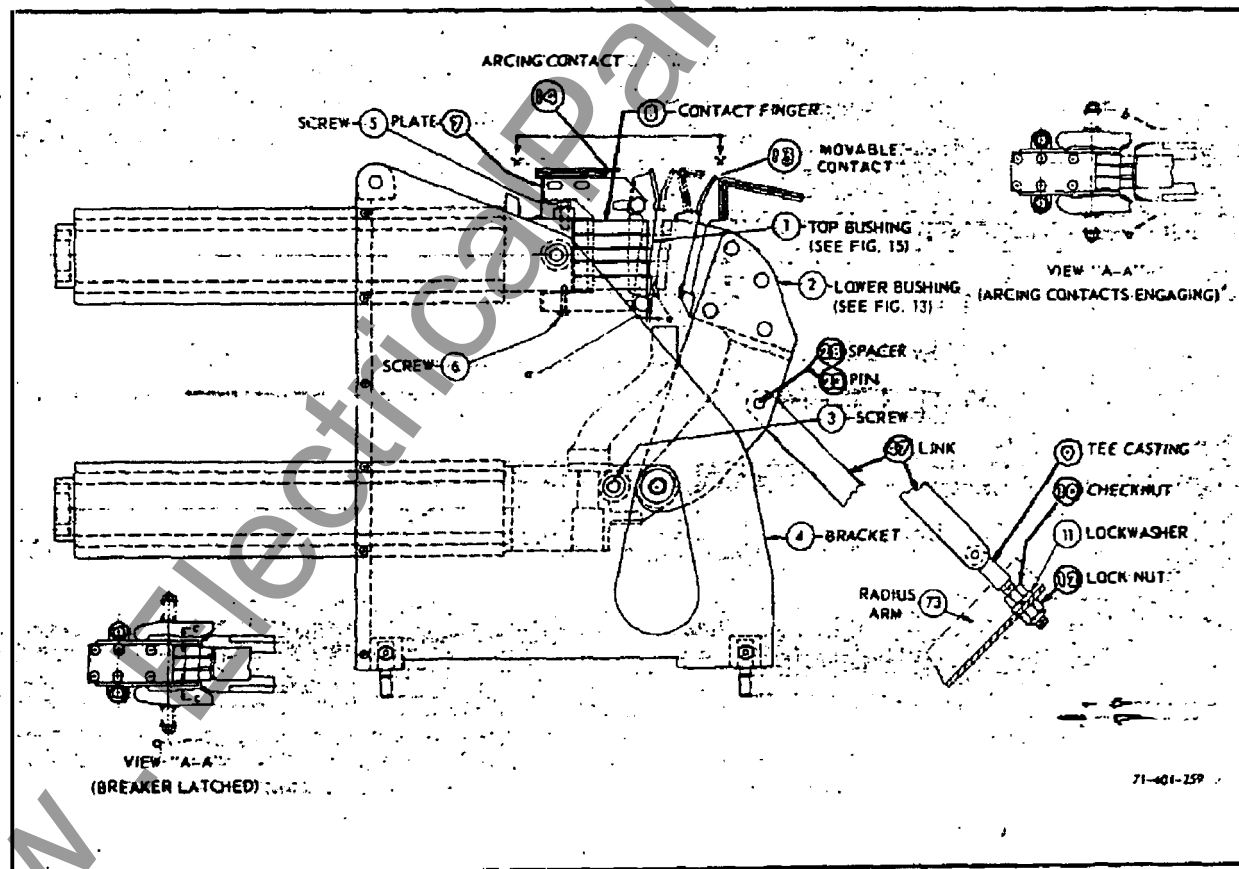

Figure 14. — Stud and Support Assembly
The contacts are an integral part of the bushing assemblies and are carefully aligned with the upper and lower bushings before shipment. Normally, no further adjustment is necessary. Check for proper contact alignment and, at the same time, for moving contact stroke by checking dimensions "c" (view "AA," Fig. 14) between contact finger (8) and plate (7), Fig. 14, on each side of bushing top and bottom of each phase separately. It is not necessary that contacts touch simultaneously on all three phases.
\* If this exact dimension and tolerance cannot be met, move blocks (8, 13) so that on a power closure all four dimensions "c", Fig. 14 (top and bottom of both sides) in a phase are within .031 inch of one another. Contact alignment in this phase will then be in proper adjustment.
This adjustment is accomplished by lengthening or shortening link (47), Figs. 14, between operator mechanism and interrupter moving blade to bring dimension "c" (view "AA," Fig. 14) to  $3/64$  to  $5/64$  of an inch. Open breaker. Referring to Fig. 14, adjust length of link (47) by turning checknut (10) and locknut (12) that hold tee casting (9) to radius arm (73). Fill space with washers. Make sure this adjustment brings dimensions "c" within tolerance in each phase. After reaching correct contact engagement, make sure that checknut (10) and locknut (12) are tightened securely (a compound, such as Locktite, may be used to insure against slipping). The stroke should be adjusted in each phase individually.
Make sure breaker is open before checking for contact lead adjustment. Referring to Fig. 14, disconnect the movable contact from operator link (47) by removing pin (23) and two spacers (28). Bring movable arcing contact (13), so that it just touches the stationary arcing contact (14), as shown in view AA — "Arcing Contacts Engaging". Measure dimension "a," the shortest gap between the two tertiary contacts, and dimension "b," view AA, the shortest gap between the main contacts. Dimension "a" should be  $1/8$  to  $5/32$  inch and dimension "b"  $9/32$  to  $3/8$  inch.
If dimensions "a" and "b" are incorrect, remove one roll pin from each plate (10) and loosen eight screws (22), Fig. 15. Insert a spacer as thick as correct dimension "a" between the tertiary contacts, and apply a C-clamp bearing on rear of block (8), Fig. 15, and front of movable contact (13), Fig. 14. Tighten C-clamp to dimension "b." With contacts held in this position, move two plates (10), Fig. 15, back so that pins (16) are touching leading end of plate
slots. Tighten eight screws (22), drill and insert pin to retain adjustment. Remove spacer, remove C-clamp and reconnect movable contact (Fig. 14, 13) to link (Fig. 14, 47).